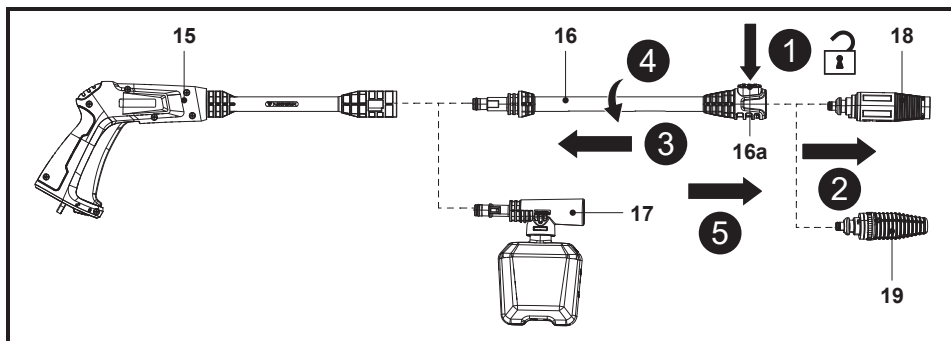

Fig. 3
4. To disconnect the nozzle, press the lock button (16a) and keep it in place, then pull the assembled nozzle out (Fig. 3, steps 1, 2). Reinstall a required nozzle.
5. To disconnect the extension lance (16) or detergent bottle nozzle (17), push and turn the extension lance (16) counterclockwise to remove it (Fig. 3, steps 3, 4, 5). Reinstall a required spray gun accessory.